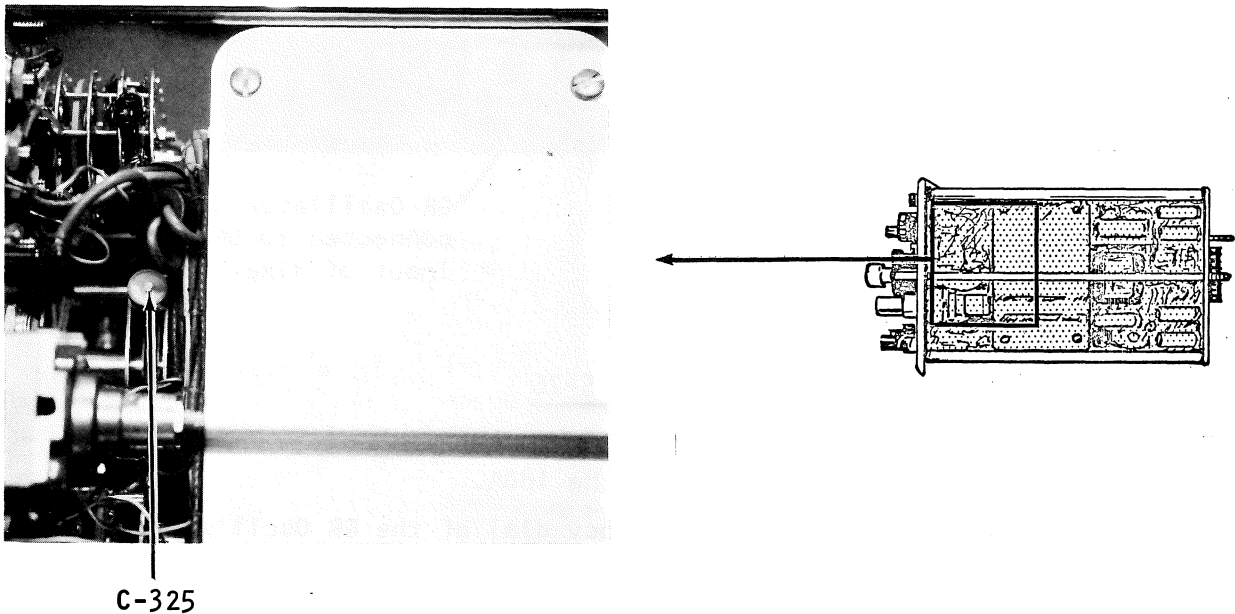

Figure 5-27
5. Adjust C-325 (see figure 5-27) for exactly 1 cycle/cm.